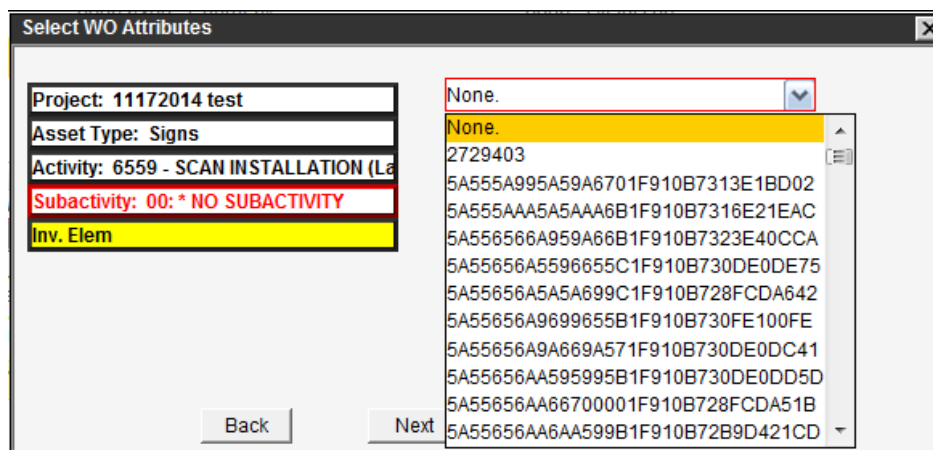

Figure 5-24. Select Work Order Inv. Elem Example
- e. If the dialog box prompts for the Inv. Elem selection (Figure 5-24), select from inventory item names, and select **Next** to proceed.
TIP! If an Inventory Element was specified in the WO Attributes dialog box (Figure 5-24), the Work Target is now inserted in the Day Cards area's Location/Asset tab, based on the selection.
- If an Asset Inventory Item(s) was specified in the WO Attributes dialog box (Figure 5-24), the Location/Asset tab's Work Target pane shows each item.